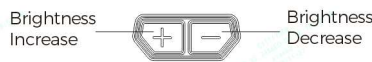

Figure 6
- 1) Switch on: Momentarily press either brightness button ("+" or "-") to turn on the red dot sight. (As shown in Figure 6)